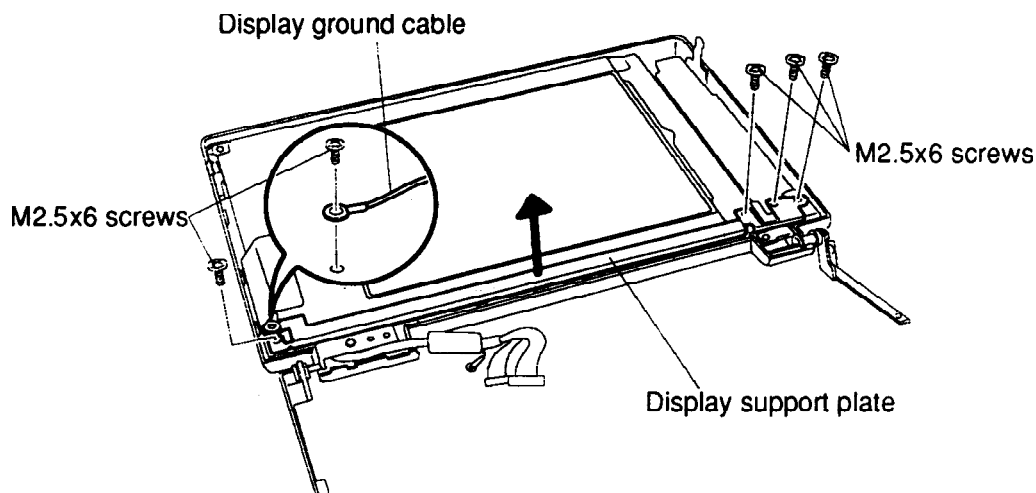

Figure 4-32 Removing the Display Support Plate
To remove the T1900's FL inverter board, follow the steps below and refer to Figures 4-32 and 4-33.
3. Remove the **five M2.5x6 screws** securing the **display support plate** (Figure 4-32).
To install the T1900's FL inverter board, follow the steps below and refer to Figures 4-32 and 4-33.
4. Set the **display support plate** in place and secure it with **five M2.5x6 screws**. One screw also secures the **display ground cable** (Figure 4-32).